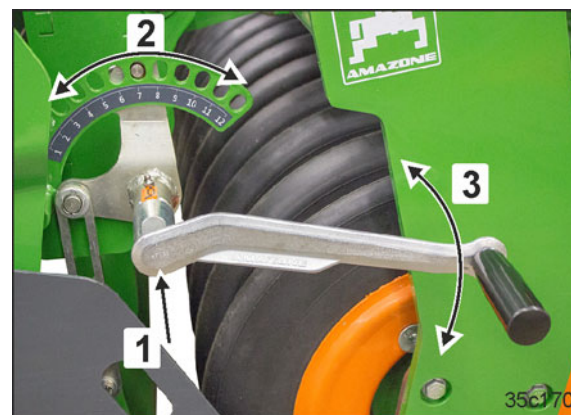

Fig. 129
1. Remove the operating tool from the parking position (Fig. 60/1, see page 78) and fit in on the adjustment device (Fig. 129/1).
Before releasing the locking mechanism, hold the operating tool (Fig. 129/3) with a tight grip!
3. Adjust the levelling board to the desired height (Fig. 129/3) by turning (Fig. 129/2) the operating tool.